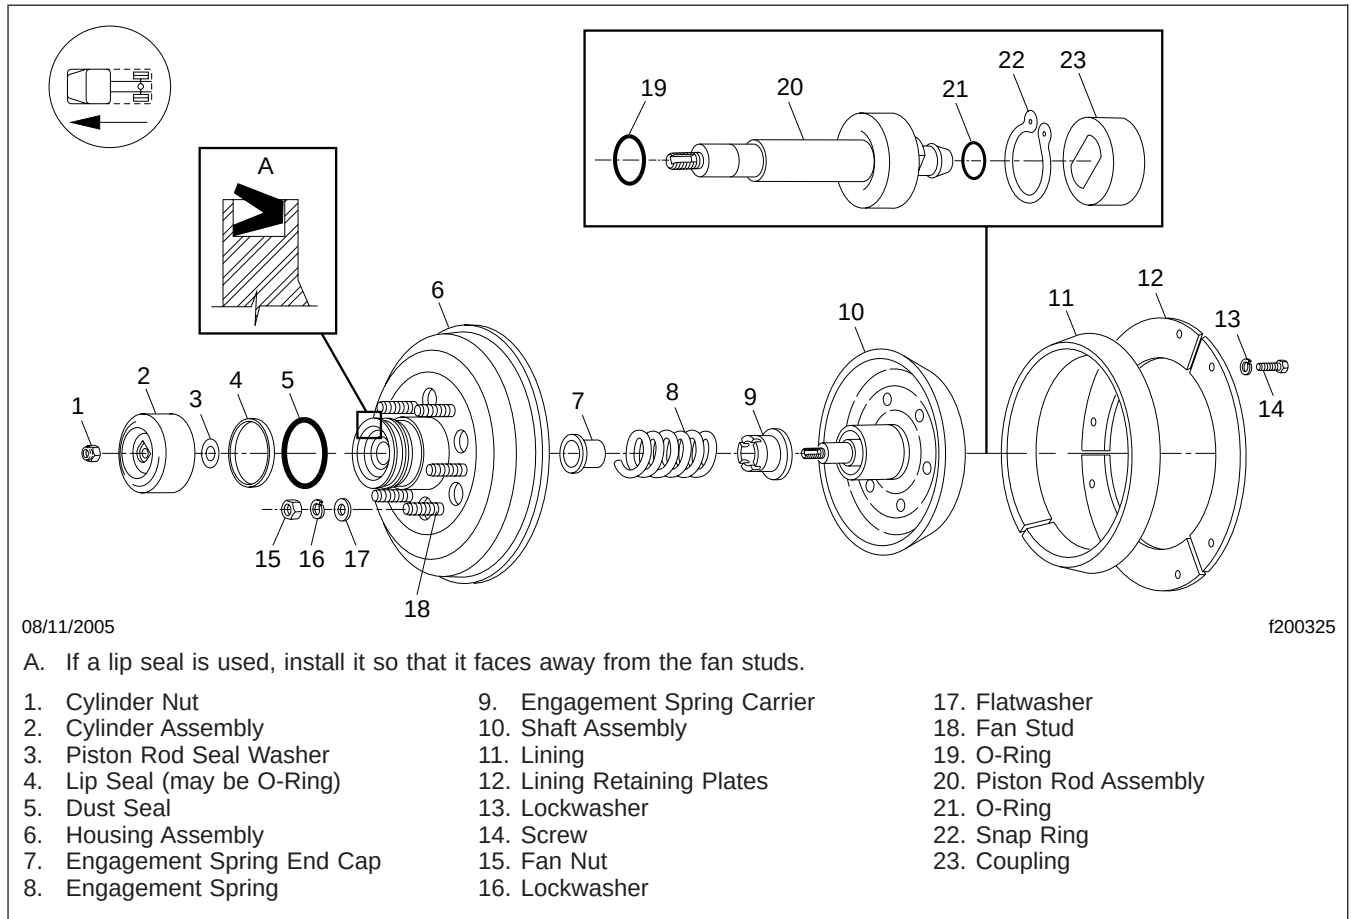

Fig. 3, Kysor K26RA Fan Clutch (exploded view)
6. Inspect the fan clutch. See Fig. 3
8. Using Fig. 3 as a reference, lubricate the following rebuild parts with lubricant supplied with the rebuild kit (if the lubricant is unavailable, use one of the approved lubricants listed in Specifications, 400) :
9. Assemble the fan clutch parts according to Fig. 3. Using either the special tools and a press, or carriage bolts, washers, and wingnuts, cage the engagement spring when installing the cylinder and lining. Be careful to depress the clutch shaft only 1/16-inch (1.5 mm).